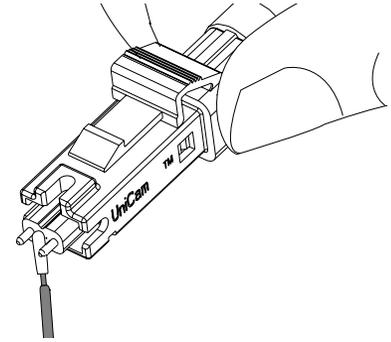

Figure 6-9
- a) Use a lint-free swab soaked with isopropyl alcohol to wipe the connector end face and guide pins. Take special care to thoroughly clean around the base of both guide pins (Figure 6-9).